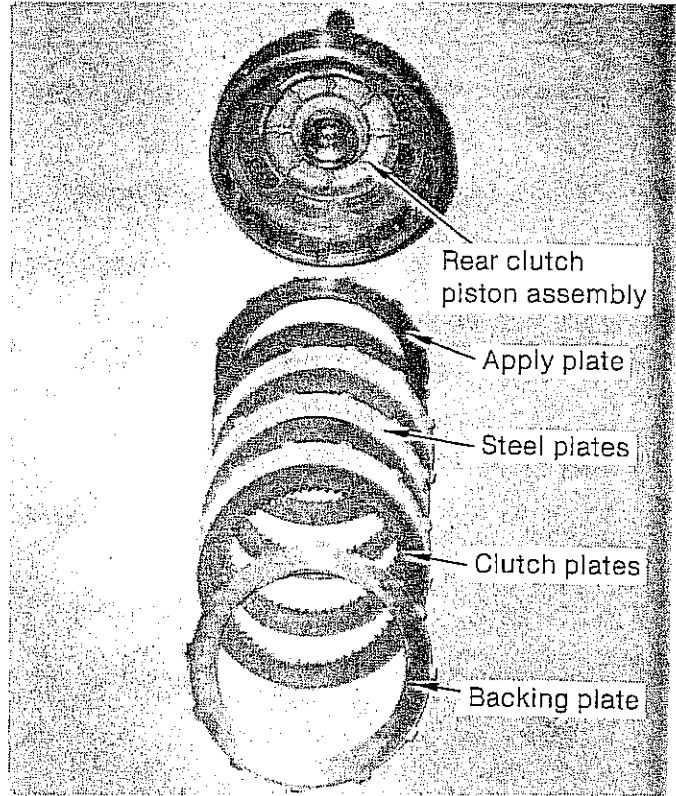

FIGURE 25
**STEP 1.** Remove the snap ring holding the backing plate in place with a screwdriver. Remove the thick backing plate. Remove three or four rear clutch plates and two or three steel plates. Remove the thicker apply plate. (See Fig. 25)